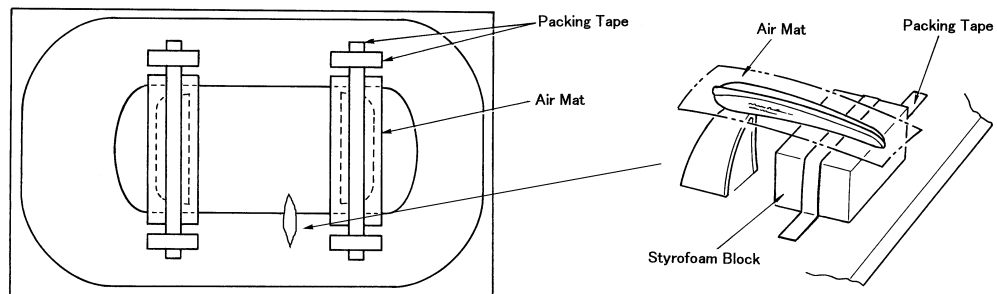

Fig. 9
4. While paying attention so that the goal post and other plastic parts are not damaged, remove the packing materials. Refer to Fig. 9.